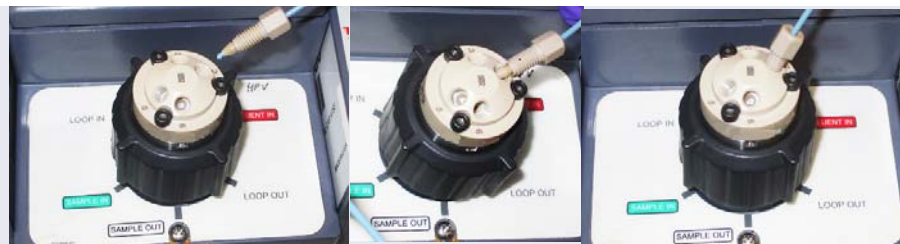

Figure 1-4. Ferrule and Fitting Bolt Placement for Tubing Connections
2. Insert the tubing into the port until it stops (see Figure 1-4).